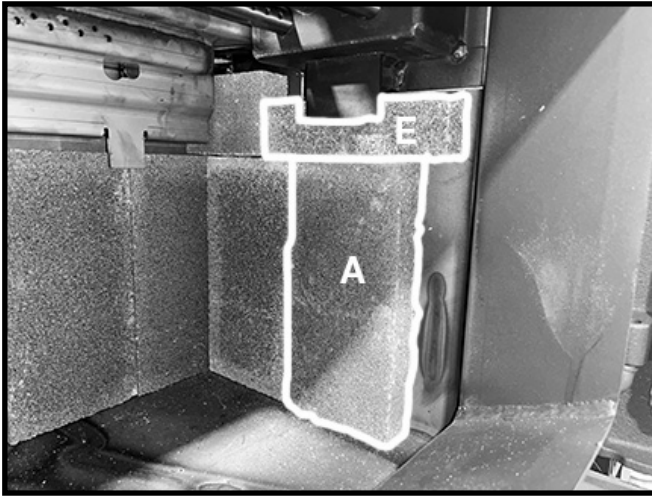

Figure 10. Second side wall bricks in place.
5. Next, place an "E" firebrick up under the side brick retainer tab and stand another "A" brick beside the first one under the "E" firebrick Figure 10.